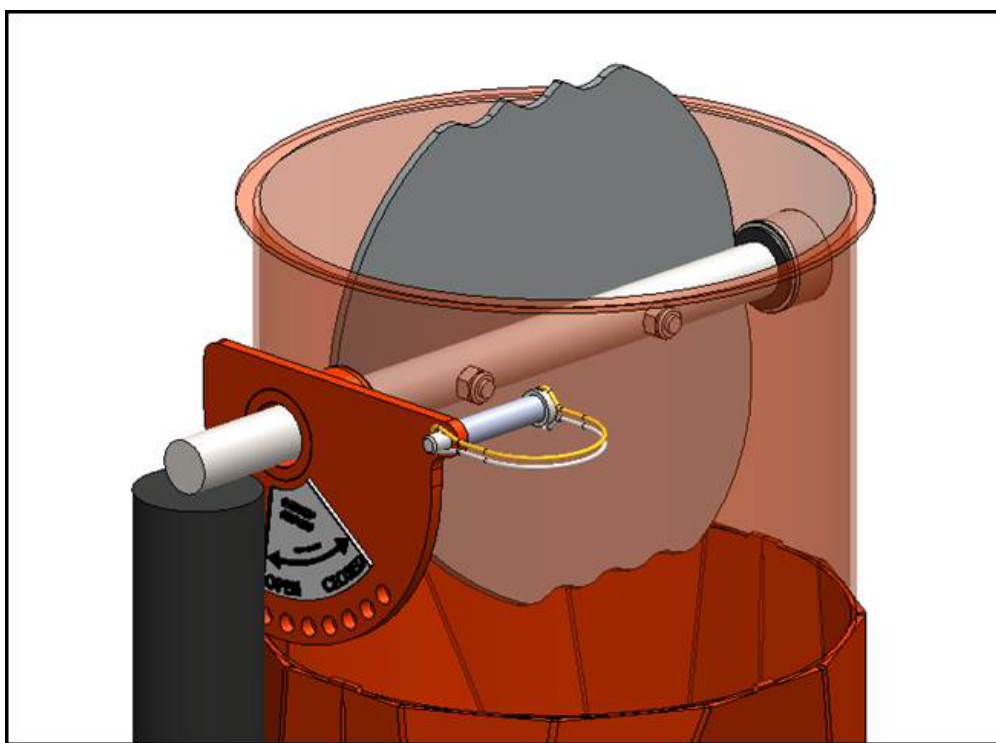

Figure 4.11 Air Throttle Fully Open (Regular Crops)
- b. For **regular grains**, fully open the air throttle (it is floating; see Figure 4.11).